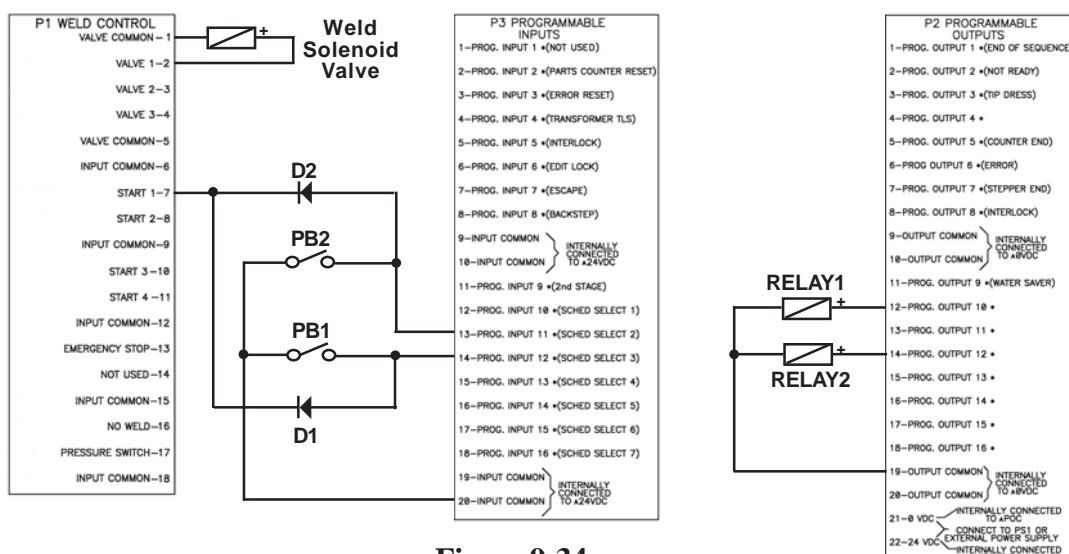

Figure 9-34.
1. Connect the initiation switches PB1 and PB2 to P1 connector as shown in Figure 9-34.
2. Connect diodes to P1 & P3 connectors as shown in Figure 9-34 (D1 and D2 are 1N4002 – ENTRON P/N 170001).
3. Connect the indication relays RELAY1 and RELAY2 to P2 connector as shown in Figure 9-34 (if required).